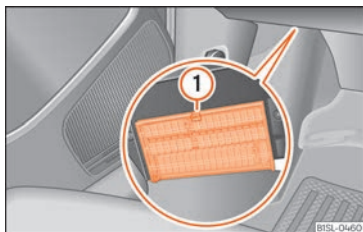

Fig. 45 Under the instrument panel on the driver side: lid of the fuse box.
- **Open:** Press the unlock button »» Fig. 45 ① until it is possible to open the cover. Fold the cover down.
- **Close:** Fold the cover up in the opposite direction to the arrow until it clicks into the locking lever ①.